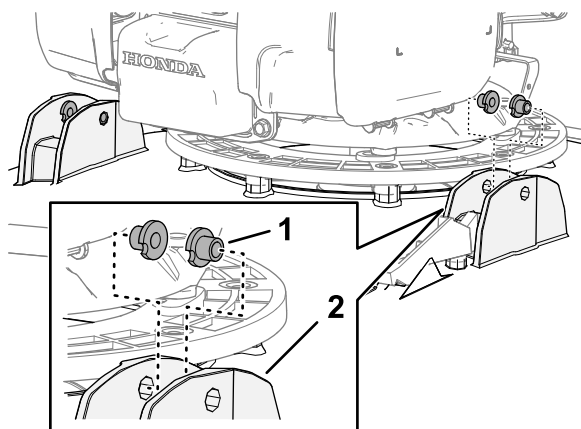

Figure 5
1. Assemble 2 T-bushings into the handlebar flanges of the mower deck (Figure 5).